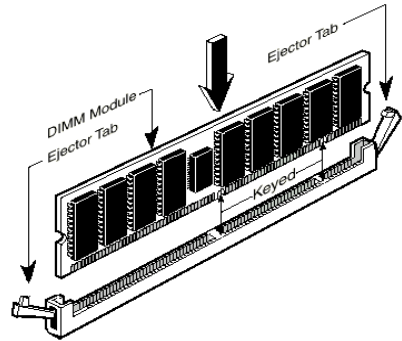

Figure 2-6. Memory module installation
5. Insert the DIMM module into the expansion socket as shown in the illustration. Note how the module is keyed to the socket. You can refer to figure 2-6 for the details. ***This insures the DIMM module will be plugged into the socket in one way only.*** Firmly press the DIMM module into the DIMM socket, making certain the module is completely seated in the DIMM socket.